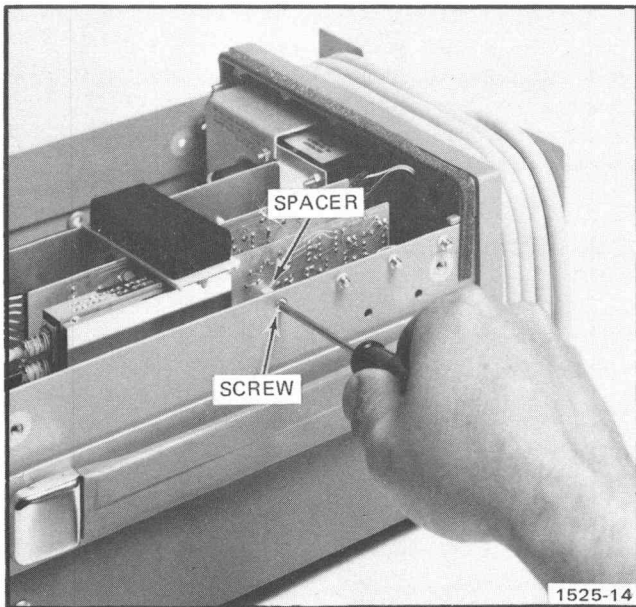

Fig. 4-3. ECG Board securing.
5. CHECK—The screw and spacer securing the ECG circuit board are tight. See Fig. 4-3.
3. Remove the board mounting screw from the right-hand side rail. See Fig. 4-3.
5. Install the board retaining screws through the side rail. See Fig. 4-3.